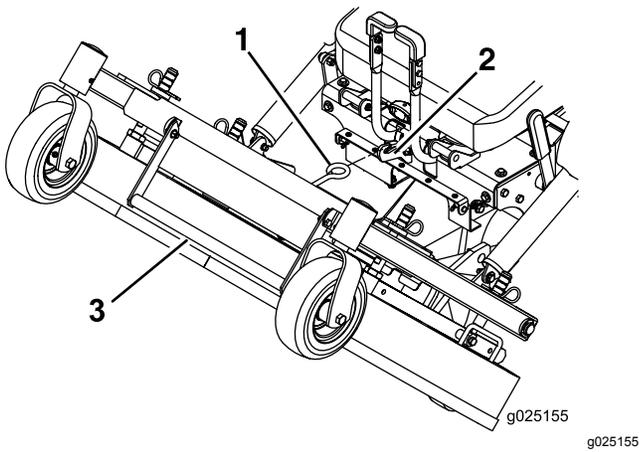

**Figure 19**
2. Release the mower-deck locking pins on each side (Figure 19).
2. Push the deck-locking pins inward and rotate them forward to securely lock the mower deck in the lowered position (Figure 19).